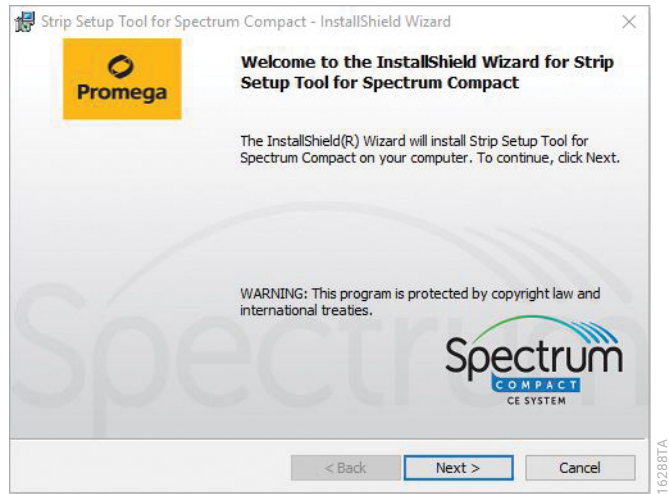

Figure 221. InstallShield Wizard window.
3. The Strip Setup Tool for Spectrum Compact InstallShield Wizard window will be displayed (Figure 221). Select **Next**.